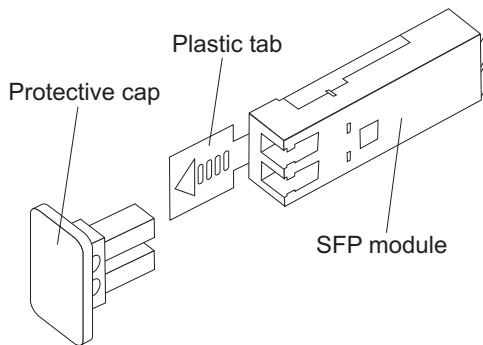

Figure 35. Installing an SFP module into the host port
4. Insert the SFP module into the host port until it clicks into place. See Figure 35.